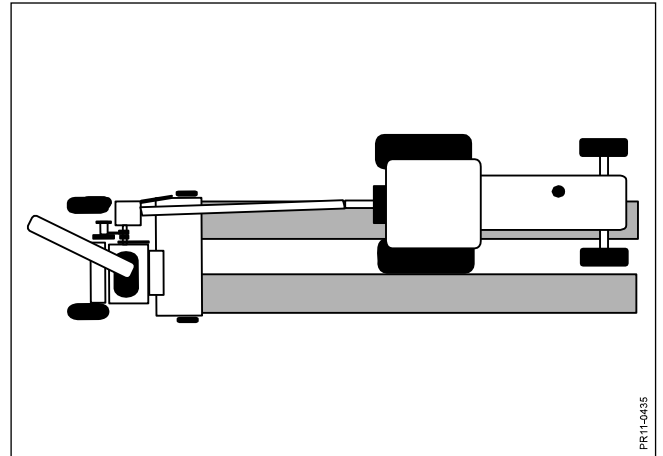

Fig. 5-8
- Fig. 5-8** 2) The chopper now works semi-offset as the tractor drives with one set of wheels between the swaths. This technique results in a straight drive line and is suitable for unloading to both sides. The parallel driving tractor can get closer to the chopper and it is easier to control the loading of the trailer.